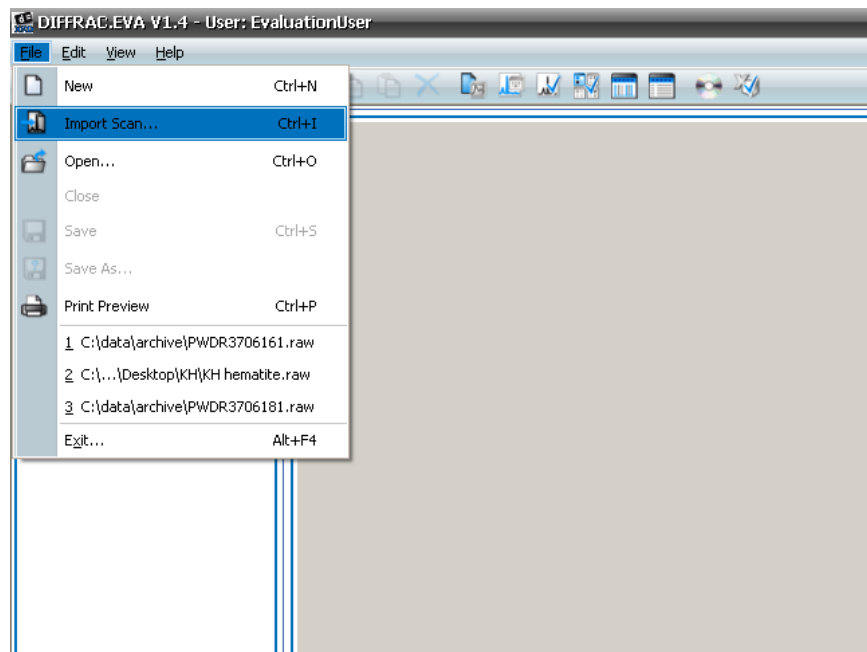

Figure 1. Open Scan.
1. Click **File > Import Scan** (*Figure 1*).